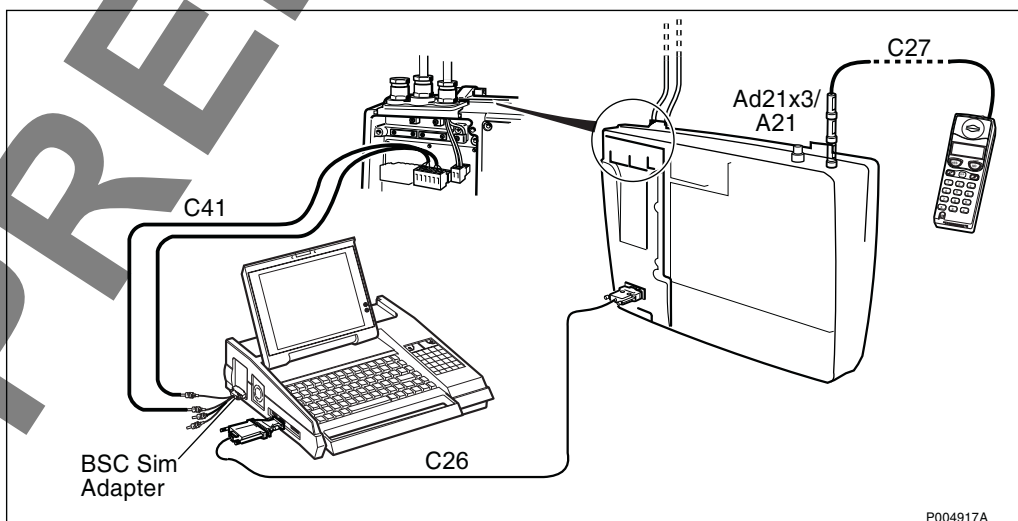
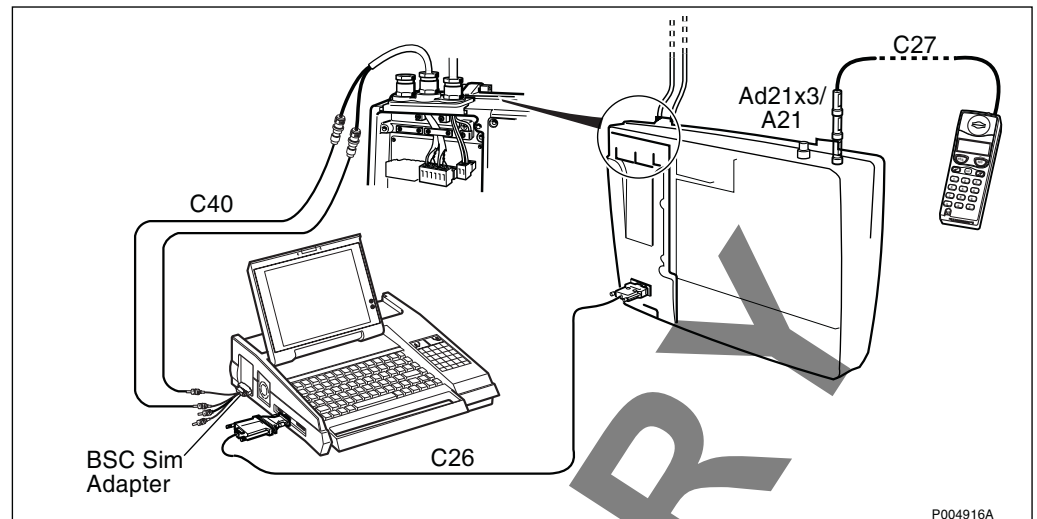

Figure 71 Test setup for T1 (1.5 Mbit/s)
Figure 72 Test setup for E1 (2.0) Mbit/s
1. Connect the cables according to Figure 71 on page 56 T1 (1.5 Mbit/s), or Figure 72 on page 57 E1 (2.0 Mbit/s)